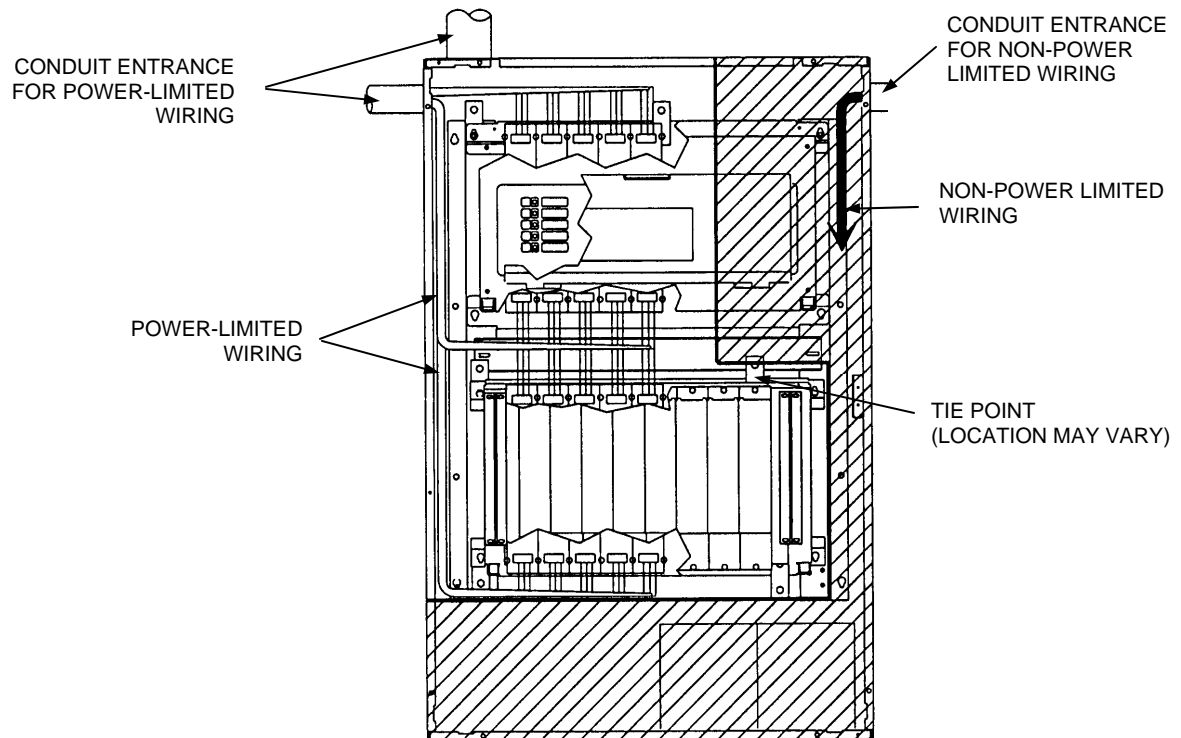

Figure 13. Power-Limited Wiring
- Non-power limited field wiring (AC power, batteries, City connection) must be installed and routed in the shaded areas shown in Figure 13.
- Power-limited field wiring must be installed and routed in the non-shaded areas shown in Figure 13, with the exception of City wiring.
- Excess slack should be kept to a minimum inside the back box enclosure. The wiring should be neatly dressed and bundled together using the wire ties provided with the equipment. Anchor power-limited wiring to tie points, as shown in Figure 13.